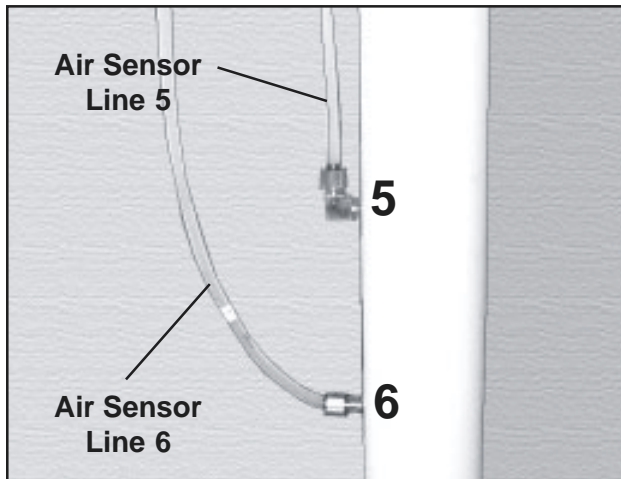

Figure 83. Air Sensor Line Connections on Air Intake Pipe
2. With a 7/16 in. open-end wrench, disconnect air sensor lines 5 and 6 from the right air intake pipe (Figure 83).
7. Connect air sensor lines 5 and 6 into the brass fittings 5 and 6 (Figure 83). Tighten the hex nut on each fitting with a 7/16 in. open-end wrench.